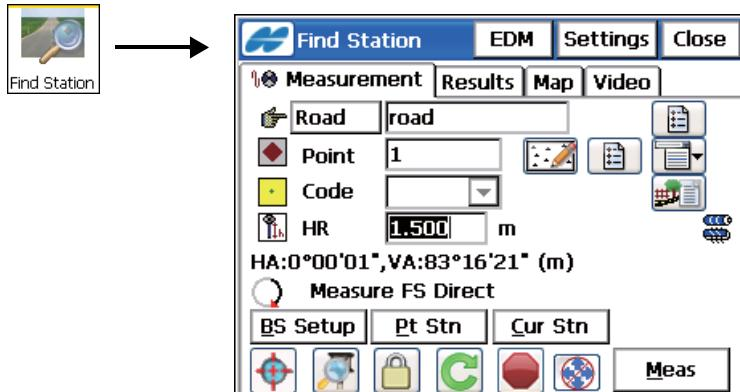

Figure 9-25. Find Station – Measurement Tab
The *Meas* tab (Figure 9-25) on the **Find Station** screen identifies the station by computing the distance from the beginning of the road to the projection of the station to the road, and the offset of the station from the center line of the road.
- **Meas** – computes the result and takes the sideshot to the point (Figure 9-25 on page 9-27).